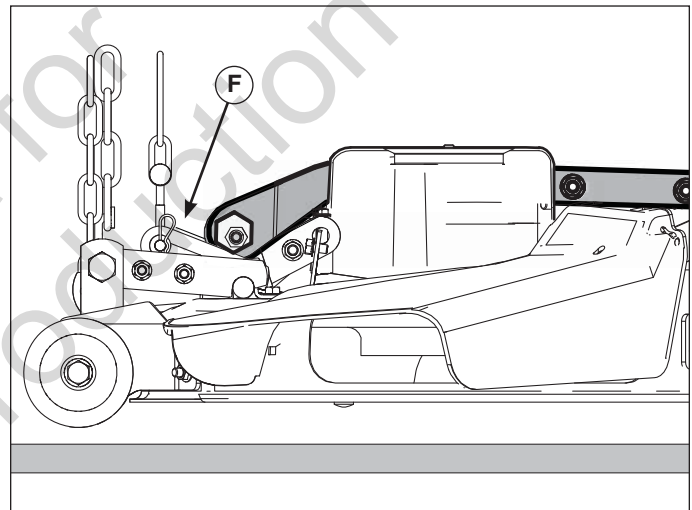

Figure 20
7. Remove the cotter pin and washer at the inner lift bracket (**F**, Figure 20) and disconnect the inner J-bolt from the bracket. Repeat for other side.
4. Connect the inner J-bolt (F, Figure 20) to the inner lift bracket and secure with washer and cotter pin. Repeat for the other side.